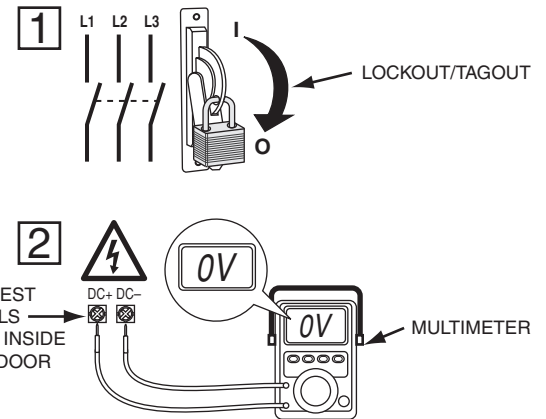

Fig. 17 — Check DC Bus Terminals
2. Check to be sure that the voltage between DC+ and DC- and from each DC terminal to the chassis is zero before proceeding. See Fig. 17.